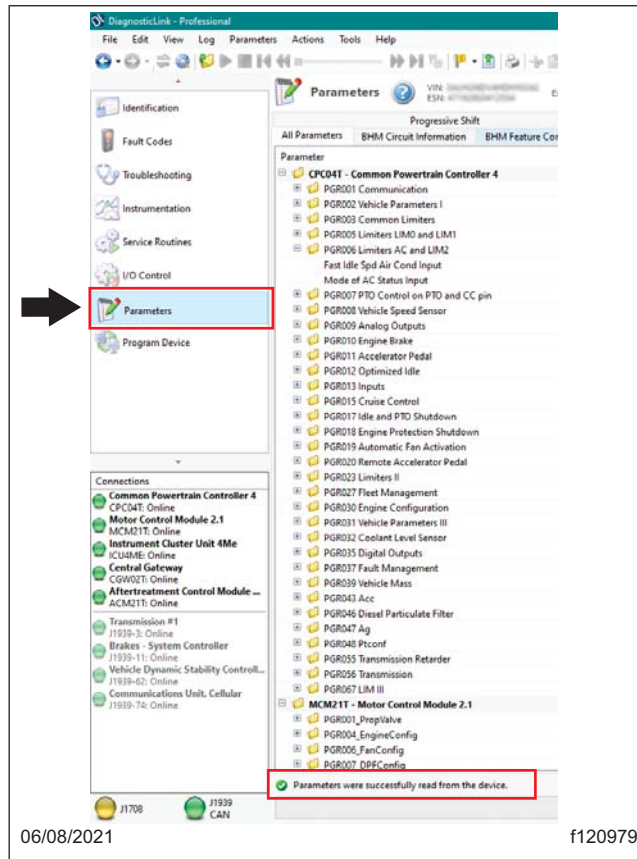

Fig. 2, Parameters Tab
4. Open the 'Parameters' tab, and ensure that all the parameters are successfully read by DiagnosticLink. This will be indicated in the status bar at the bottom of the window. See Fig. 2.